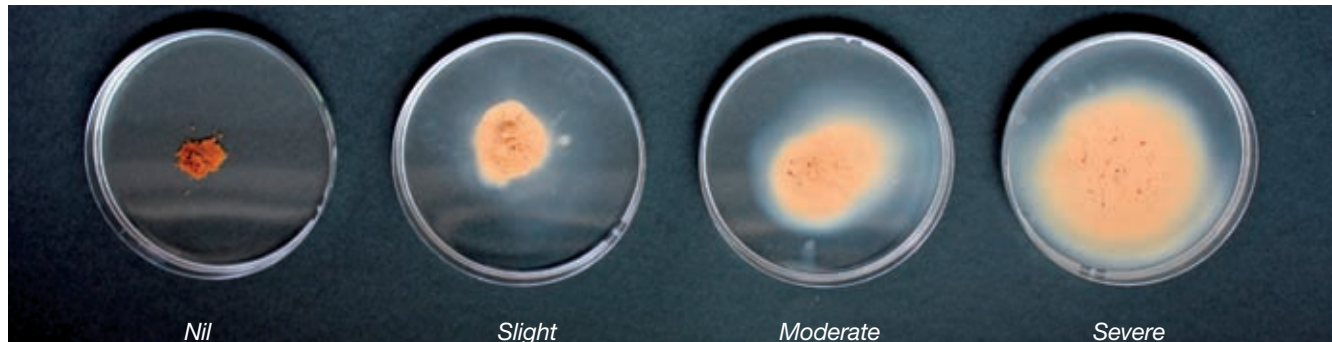

Figure 1 Degrees of soil dispersion.
Firstly the exchangeable sodium percentage (ESP) can be measured as part of a standard soil test. This measures the proportion of cation exchange sites occupied by sodium. Soils are considered sodic when the ESP is greater than 6 and highly sodic when the ESP is greater than 15 (Table 1). Secondly a simple dispersion test can be used to assess the dispersive behaviour of the soil (Figure 1). The procedure is as follows:
- The water around the edges of the soil aggregate in dispersive soils will become cloudy and milky looking (water looks dirty) because of the dispersed clay (Figure 1)
- For a highly dispersive soil dispersion will be obvious after about 10-30 minutes, for a moderately dispersive soil it may take two hours for dispersion to be obvious (Figure 1).